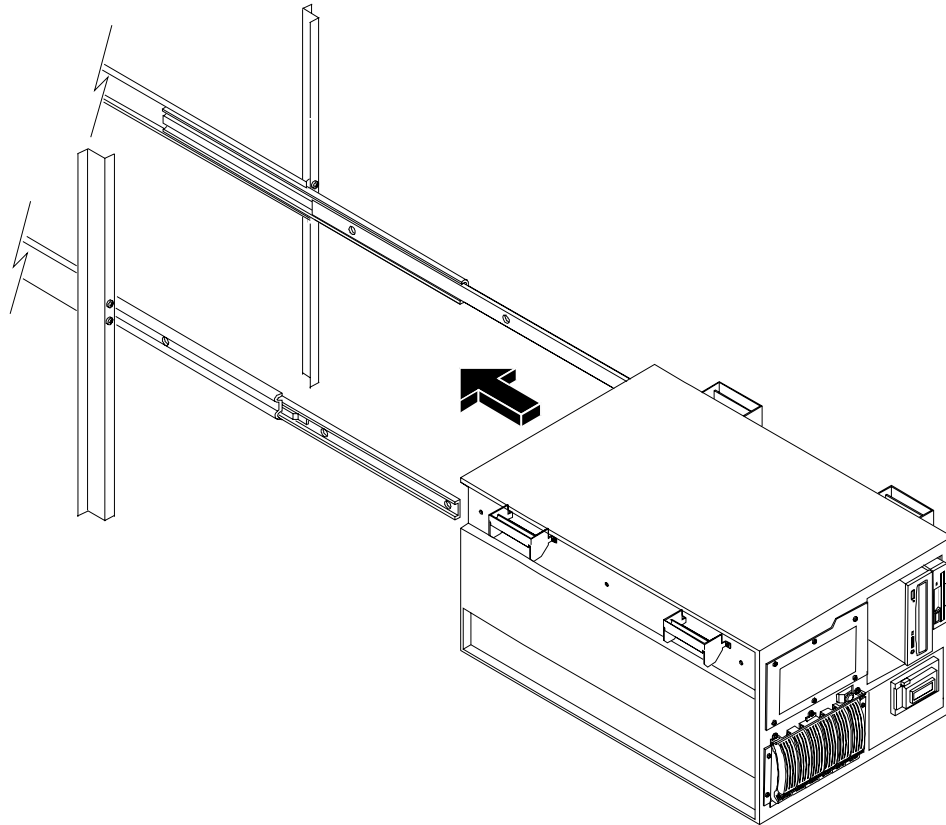
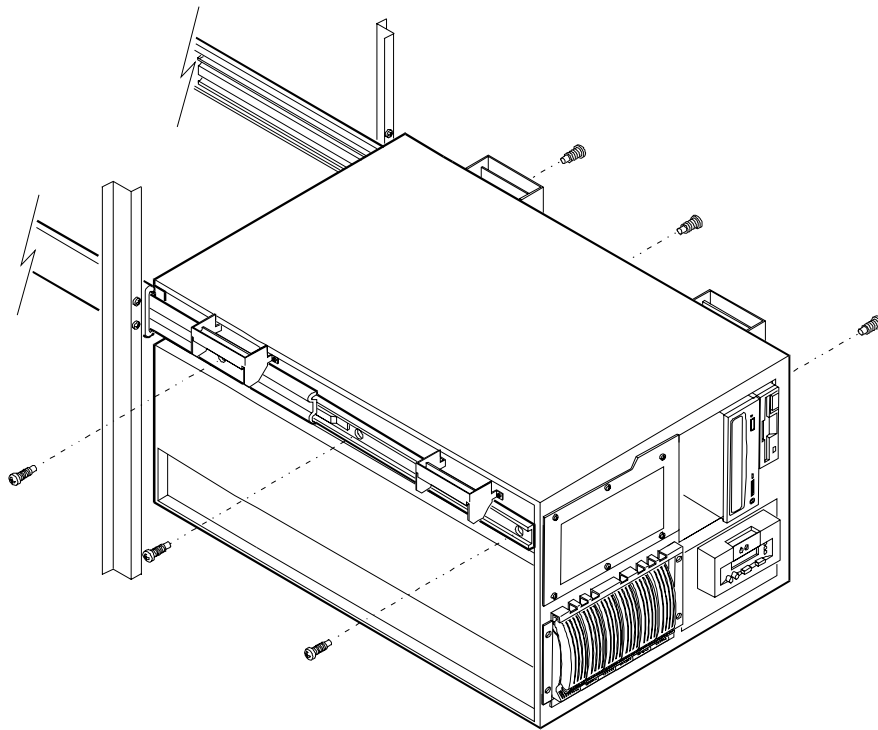

Figure 3-5. Lifting the Server Onto the Slide Members
Figure 3-6. Attaching the Slides to the Server Chassis
3. Using two people, lift the NetServer using the handles on each side. Move the NetServer in between the extended slide members and position it so that the handles are resting on the slide members (see Figure 3-5 and Figure 3-6).
4. Line up the mounting holes in the slide members with the holes in the NetServer chassis, insert the three screws on each side, and tighten them (see Figure 3-6).